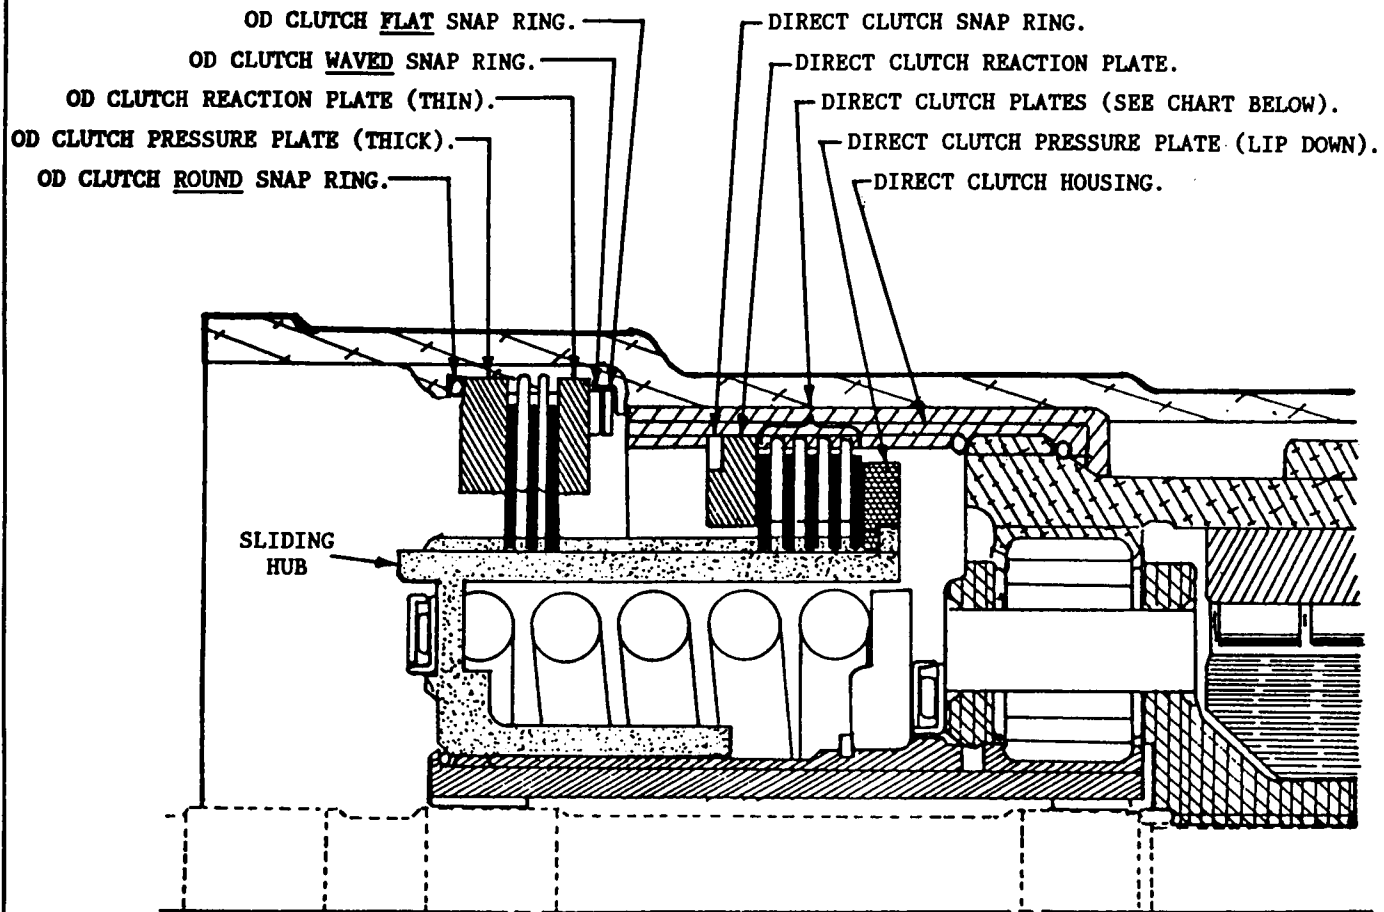

Figure 32
45. The FLAT snap ring and the WAVE snap ring fit into the same groove. (See Figure 32).